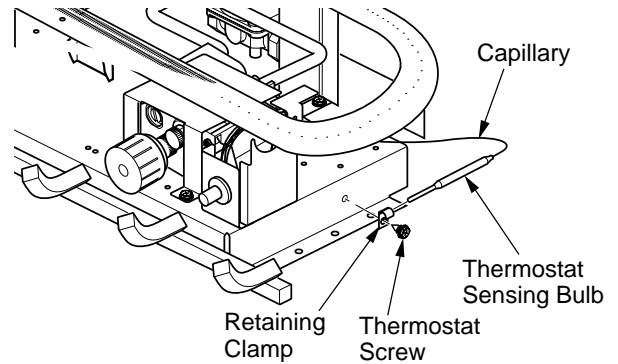

Figure 33 - Removing Thermostat Sensing Bulb
2. With 1/4" hex driver or socket, loosen the thermostat screw. Carefully slide the thermostat sensing bulb out of the retaining clamp (see Figure 33).